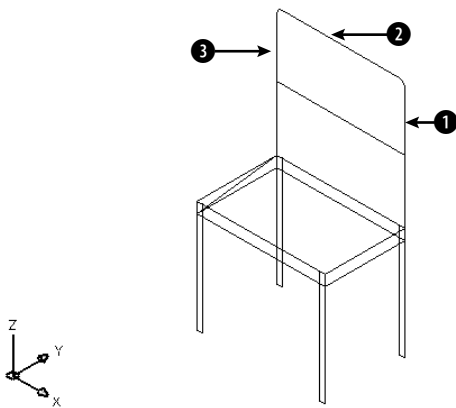

Figure 21-10: A wireframe model of a chair.
8. At the *Select first object or [Polyline/Radius/Trim/multiple]:* prompt, pick ❶ in Figure 21-10. At the *Select second object:* prompt, pick ❷.
9. Repeat the **FILLET** command and pick ❷ and ❸ for the two lines.
10. Save the drawing of the chair. It should look like Figure 21-10.
Wireframes have a number of limitations. In Figure 21-10, the chair you drew in the previous exercise, you can see the back leg through the seat of the chair. Also, creating the detail of a real chair would be tedious if you were to use individual lines or 3D polylines. Finally, wireframes don't have any surface or solid properties. You can't display them in any realistic fashion or calculate properties, such as area, mass, and so on.